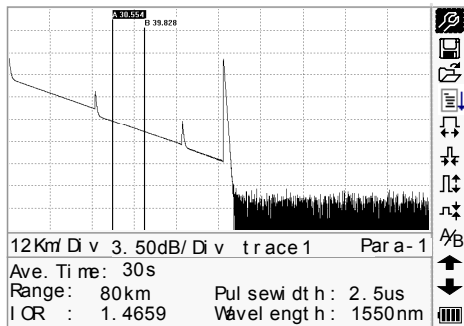

Figure 39.- Trace Measurement of PROLITE-50/51/52.
- After a certain period of time, the trace displays on the **GUI**. The trace in the Figure below is a trace during measurement, which will be refreshed for every certain period of time to demonstrate the whole process to users in real time. But at the end of measurement, the trace will be final, as shown in figure 39.
Under GUI of figure 39, press  and the items of information window will display in circulation: measurement parameter → analysis information → Event list → information of marker A/B → measurement parameter.